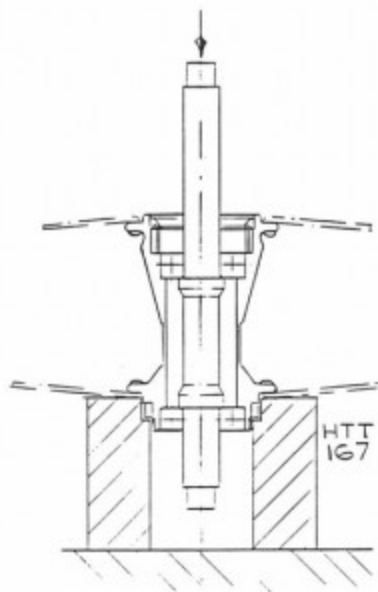

FIG 2
Strip: Remove rotor body as described previously in Maintenance Instructions. Sit non-drive side spoke flange on tool HTT167 or a pair of parallels. See fig.2. Using a soft hammer (nylon or hide) tap end of spindle and remove the spindle with non-drive bearing attached. Turn hub or wheel over, sit on drive side spoke flange, use soft drift and tap out drive side bearing. Inspect lip seal (item 9) for damage, prise out with screw-driver if replacement is required.